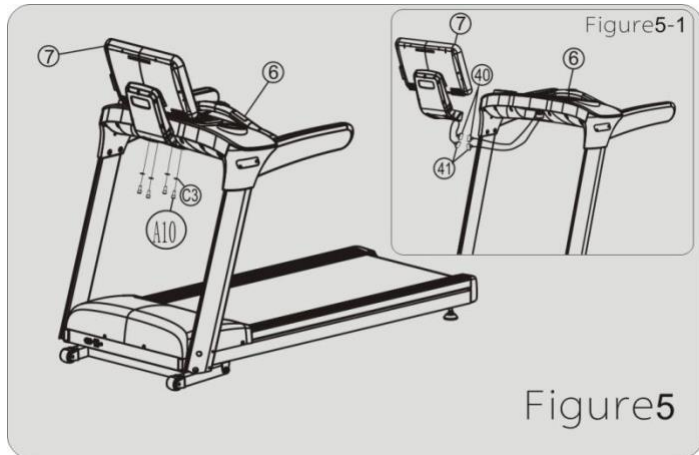

Figure5
5.2 Connect the display screen (7) to handlebar and controlling panel (6) by four sets of half-round bolt M10X25(A10), flat washers  $\phi$ 10(C3). (Attention: To align screw hole) (See Figure 5)